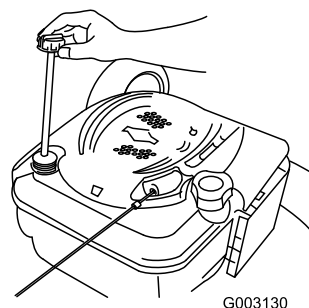

Figure 40
2. Retirez la jauge (Figure 40).